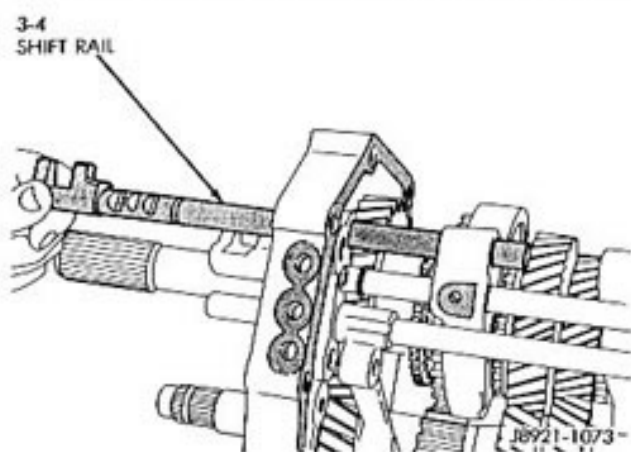

Fig. 44 Removing 3-4 Shift Rail
- (4) Remove the 3-4 shift rail from the shift fork and intermediate plate (Fig. 44).